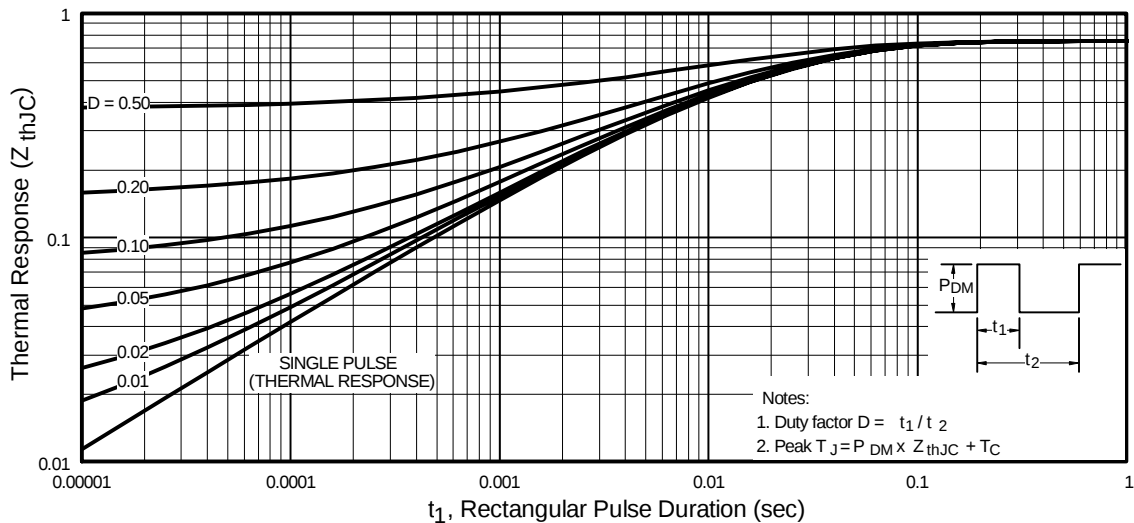

Fig 11. Maximum Effective Transient Thermal Impedance, Junction-to-Case
- ① Repetitive rating; pulse width limited by max. junction temperature. (See fig. 11)
- ② Starting $T_J = 25^\circ\text{C}$, $L = 0.23mH$